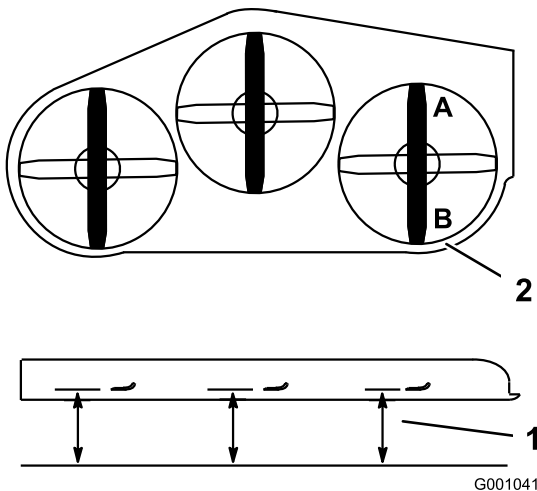

Figure 82
- Position the right blade front-to-rear (Figure 82).
- Measure the right blade at the **A** location, from a level surface to the cutting edge of the blade tip (Figure 82).
- Measure the right blade at the **B** location, from a level surface to the cutting edge of the blade tip (Figure 82).
- The mower blade should be a 1/4 to 3/8 inch (6 to 10 mm) lower at position **A** than at position **B** (Figure 82). If it is not correct, proceed to the following steps.